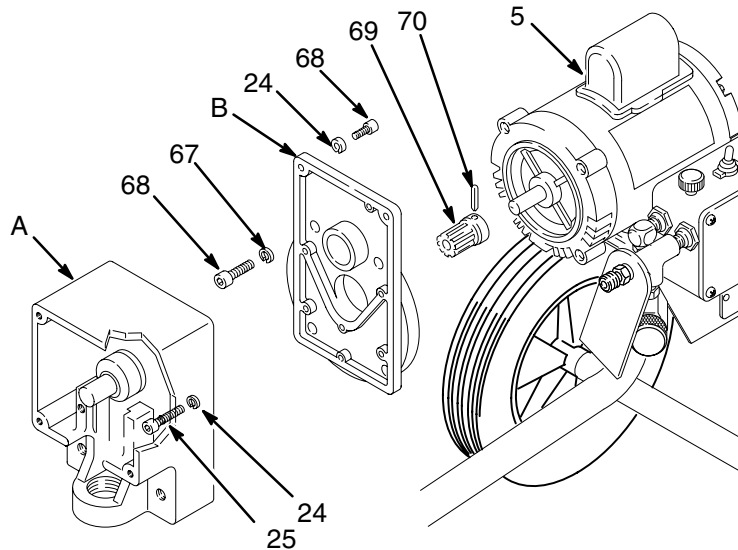

Fig. 12
2. Remove the capscrews (25 & 68), lockwashers (24), and drive housing (A). Remove the screws (66), lockwashers (67), and motor housing (B). See Fig. 12.
3. Clean and inspect the gear (69) for wear or damage. Replace it if necessary. To remove the gear, drive out the pin (70), and pull it off the motor shaft. Apply molybdenum disulfide spray lubricant to the new gear, allow to dry, then apply industrial, heavy-duty extreme-pressure, lithium-soap grease.